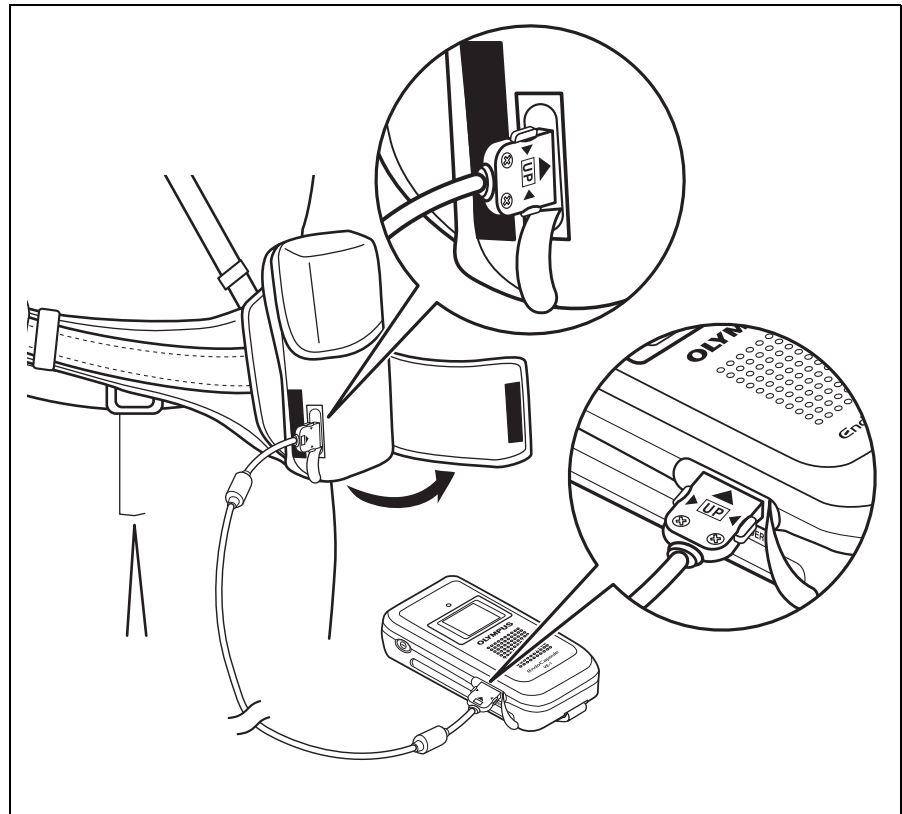

Figure 5.40
9. Remove the rubber caps from the real time viewer cable connectors on the recorder unit (accessible via the opening on the lower right side of the netted pocket) and on the real time viewer. Using the real time viewer cable, connect the real time viewer to the recorder unit, as shown in Figure 5.40.